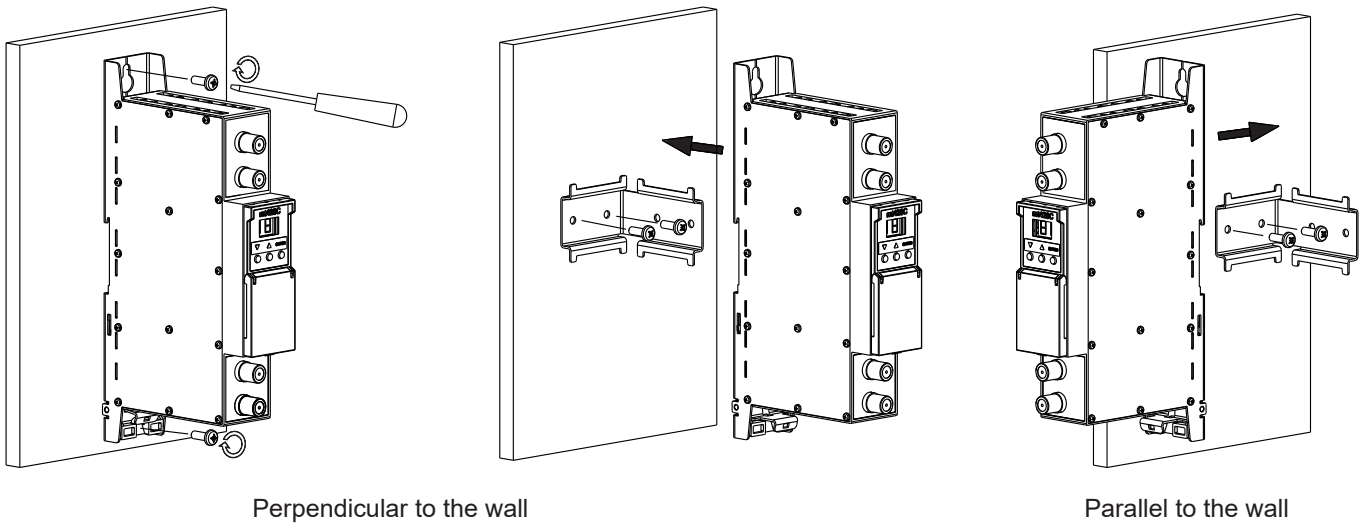
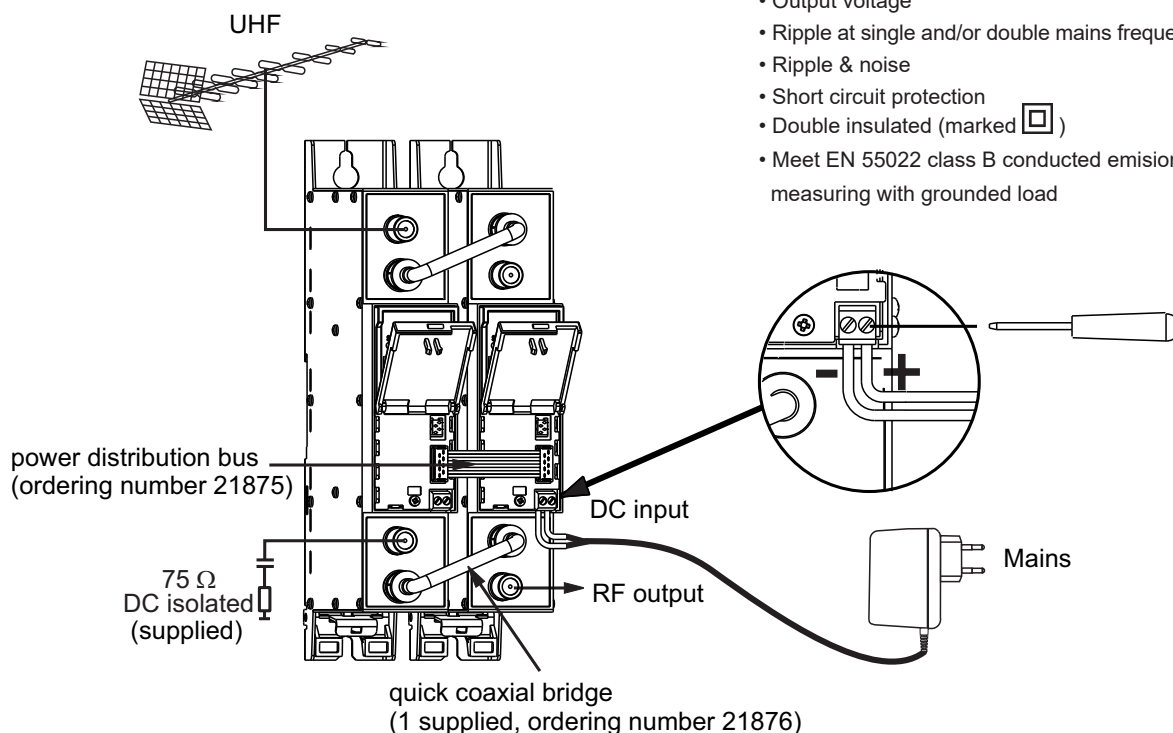

Figure 2. Mounting of amplifier
Figure 3. Powering of amplifier
The amplifier can be used as stand-alone unit as well as modular system powered from single power supply (Figure 3). The amplifier is intended for indoor use only.
DC power should be connected, after at420 mechanically placed into position (Figure 2, 4 and connected Figure 3). Menu settings are ready for user updates.
If RF IN connector (5) is not used, connect the 75Ω isolated load supplied (Figure 3).